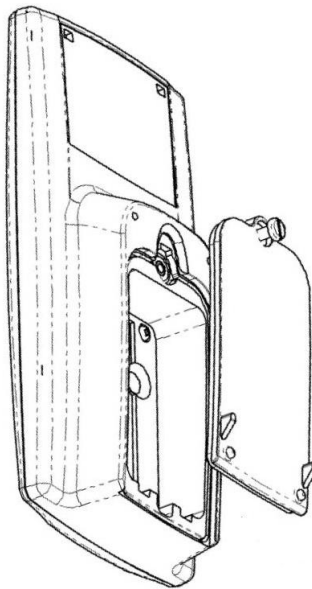

Figure 4-2: Insert batteries
3. Insert the batteries into the back of the wUIU and secure the cover with the supplied screws (*Figure 4-2*).